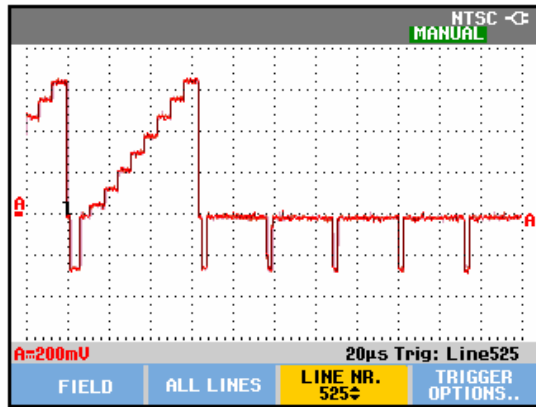

Figure 4-13. Trace for NTSC line 525
- ⇒ 525 for NTSC, see Figure 4-13.